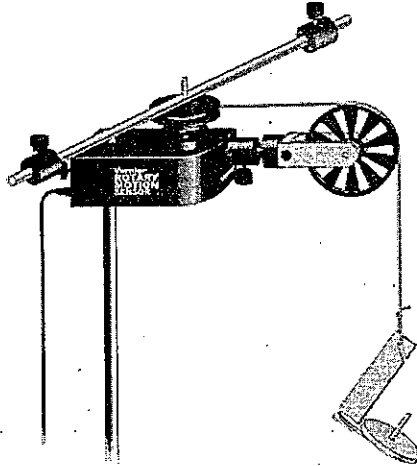

Figure 2
10. Attach the rod and weights to the sensor as shown in Figure 2. Repeat Steps 3–7 as you did in Parts 1 and 2.